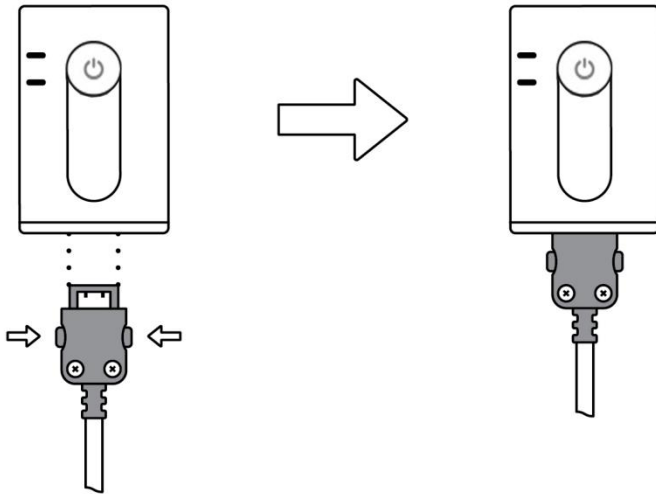

Fig. 17. Connection of EMG cable to the sensor
2. Connect EMG cables to the sensors (Fig. 17).